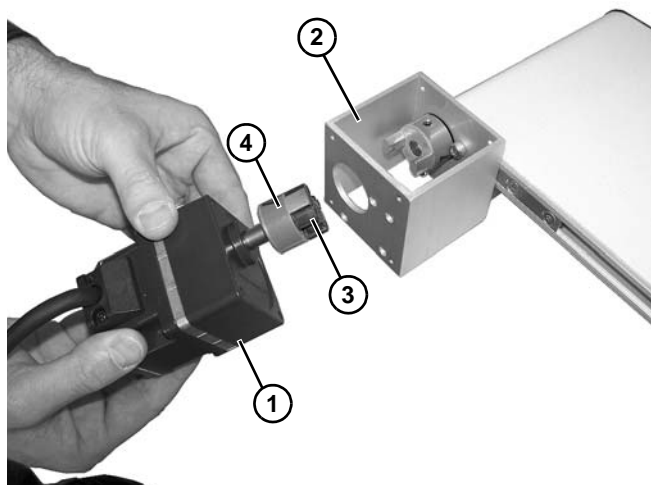

Figure 33
10. Remove gearmotor (**Figure 33, item 1**) from side mount bracket (**Figure 33, item 2**).
11. Remove 3-jaw spider (**Figure 33, item 3**) from spider coupler (**Figure 33, item 4**).
12. Loosen set screw and remove spider coupler (**Figure 33, item 4**) from motor shaft.